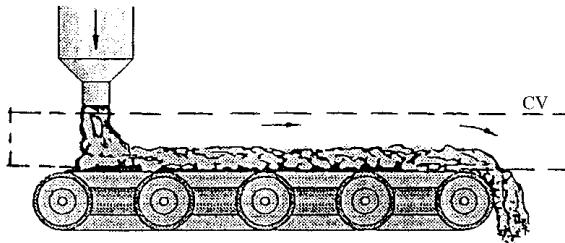

Fig. P3.67
**3.67** Gravel is dumped from a hopper, at a rate of 650 N/s, onto a moving belt, as in Fig. P3.67. The gravel then passes off the end of the belt. The drive wheels are 80 cm in diameter and rotate clockwise at 150 r/min. Neglecting system friction and air drag, estimate the power required to drive this belt.